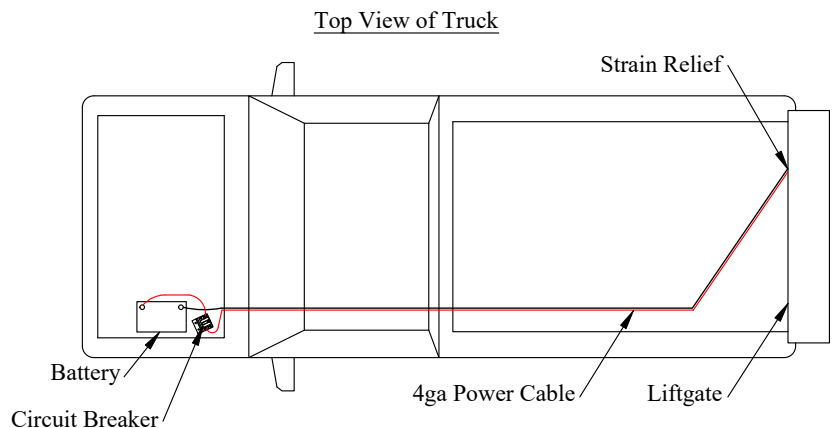

Figure 20: Electrical routing.
3. **Loosen** the strain relief on the back of the liftgate mainframe (Figure 20).
4. **Pull** the power cable (coiled up in the liftgate mainframe) carefully through the strain relief. Leave approximately two (2) inches of slack inside the liftgate mainframe (Figure 20).
6. **Route** the power cables along the frame (Figure 20) to the battery following the *Tommy Gate Recommended Electrical Wiring Guidelines*.